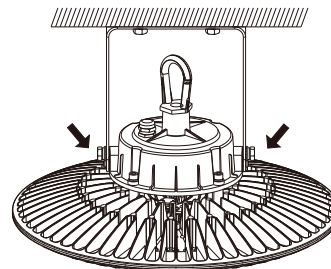

Fig. 3
3. Adjust the angle of the bracket. This can be done by loosening the side bolts shown in **figure 3**, then retightening at the desired angle. **(Figure 3)**.